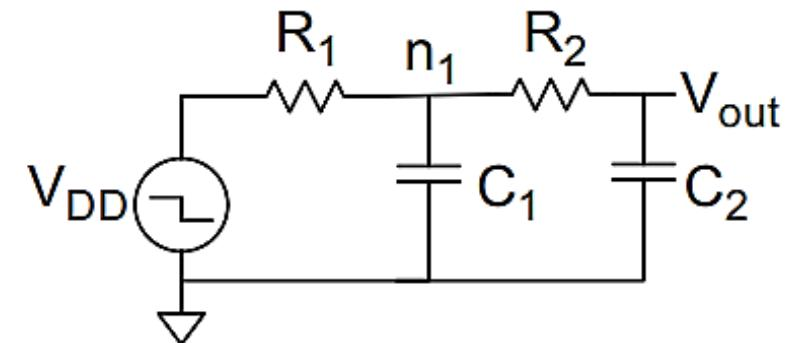

FIGURE 4.10 Second-order RC system
1. Compute the Elmore delay for V_{out} in the 2nd order RC system from Figure 4.10.